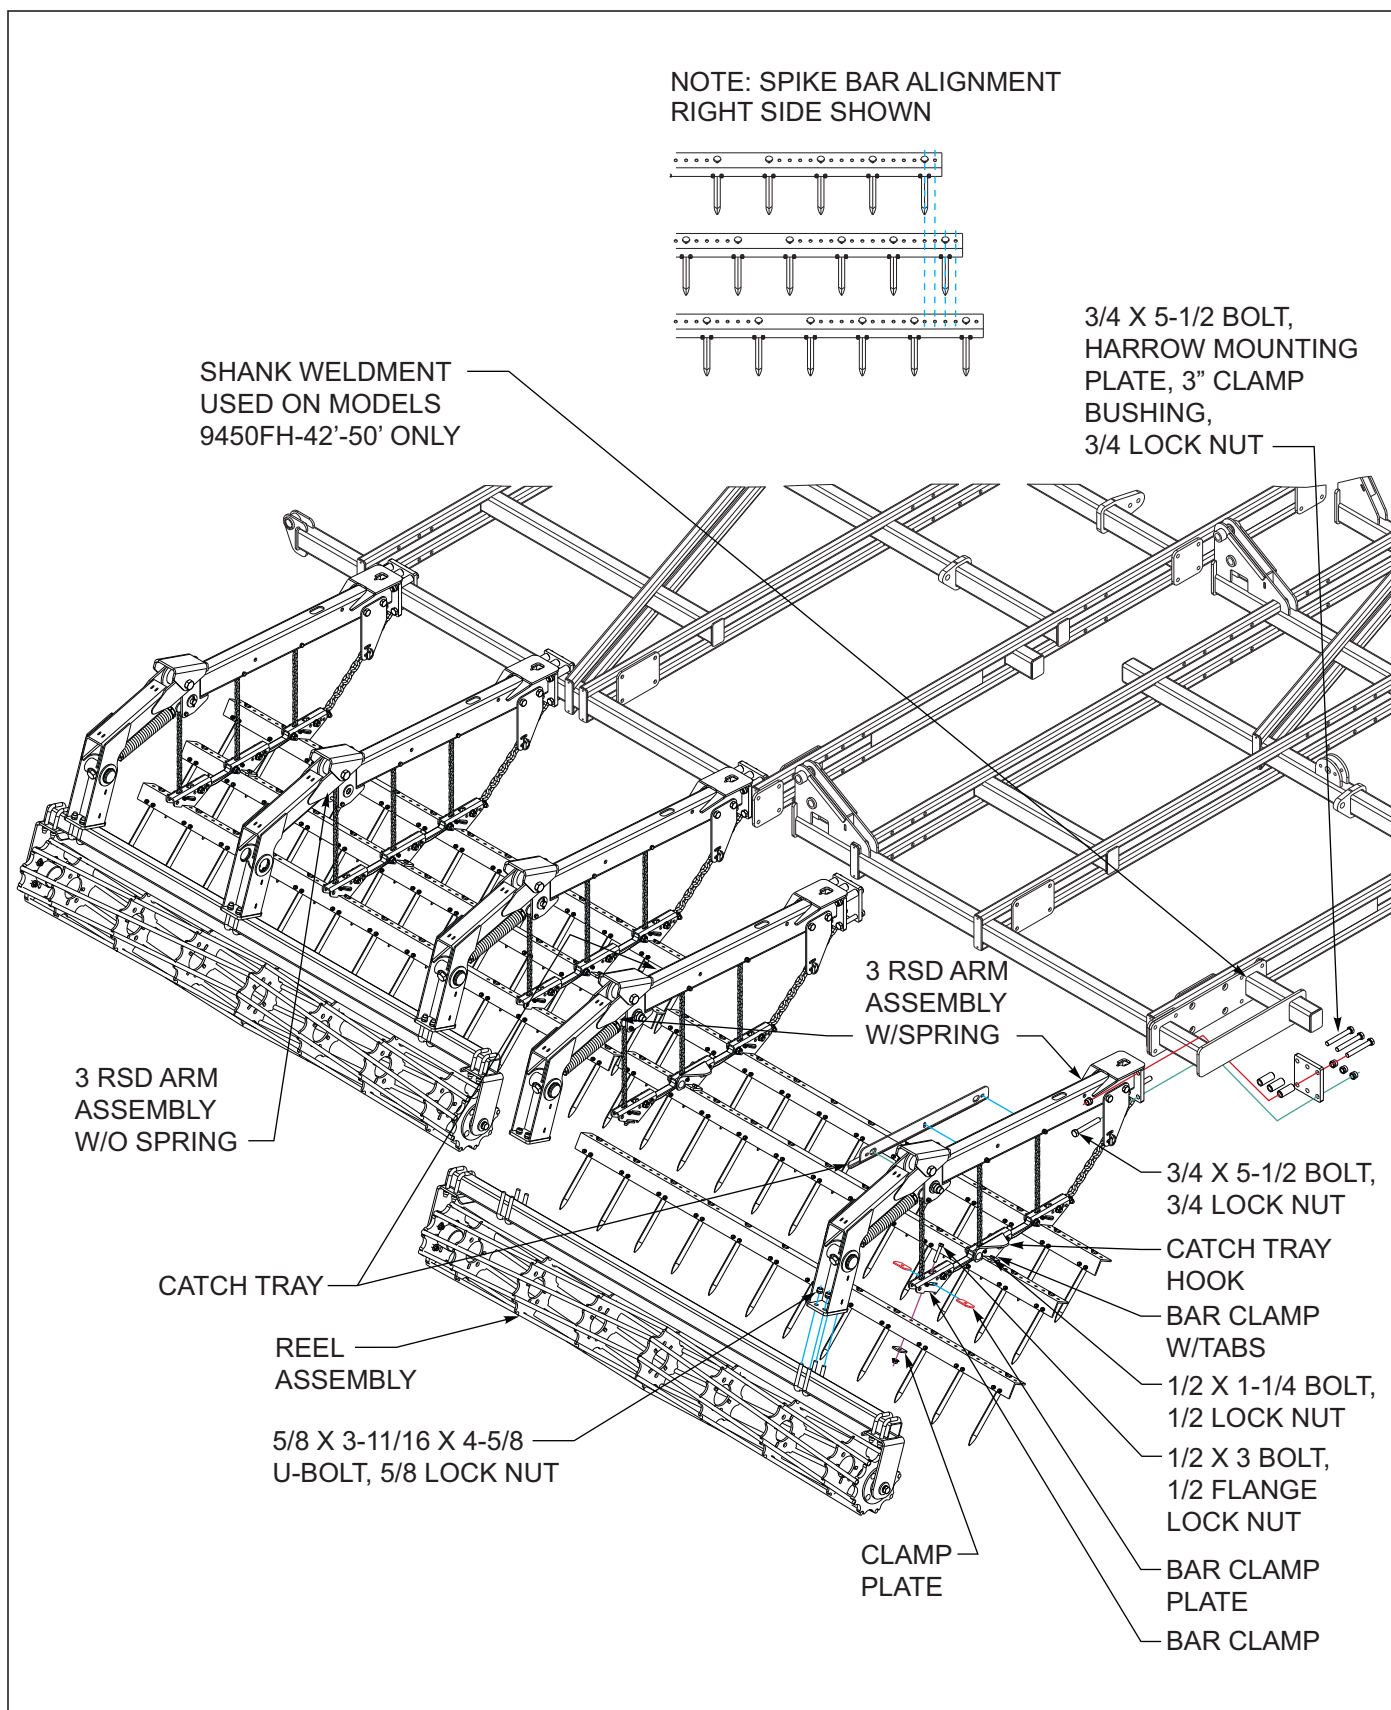

Figure 3-32: 3 Row Spike Harrow and Reel Installation
1. Attach the 3 RSD w/spring and 3 RSD w/o spring (Models 9450FH-38’-42’ only) arm assemblies to the rear tube of the center and wing frames using harrow mounting plates, 3/4-10x5-1/2 hex screws, clamp bushings and 3/4-10 lock hex nut **See Figure 3-32**.
3. Refer to Note: spike bar alignment **See Figures 3-32** for proper alignment of spike bar assemblies. Be sure they are aligned properly on both right and left side of each section.
1. Attach the 2RSD arm assemblies to the rear tube of the center and wing frames using harrow mounting plates, 3/4-10x5-1/2 hex screws, clamp bushings and 3/4-10 lock hex nut *See Figure 3-32*.